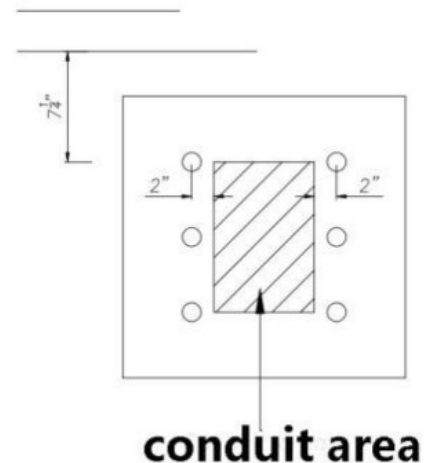

Figure 6
2. Install underground conduits in area for conduits. Figure 6